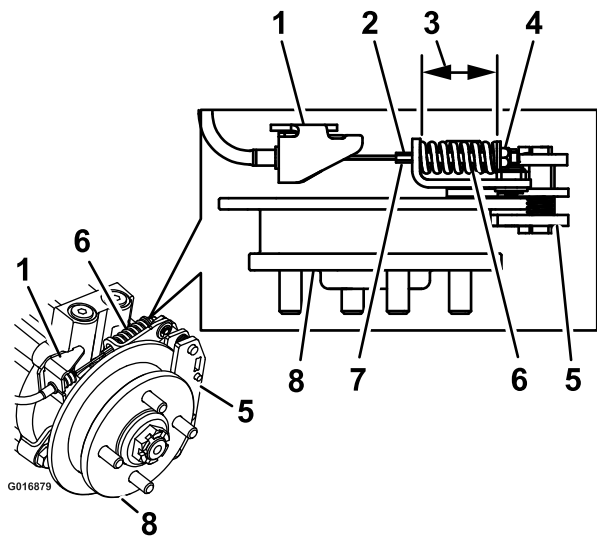

Figure 73
9. Hold the threaded rod end with a tool and adjust the lock nut until the spring length is between 3.8 and 4.0 cm (1-1/2 and 1-9/16 inches) (Figure 73). Do not allow the cable to turn when the nuts are being loosened.